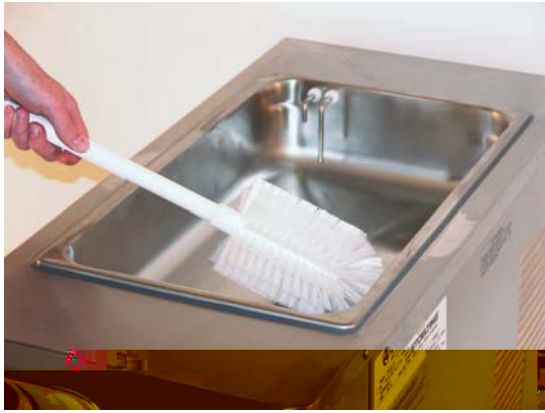

Figure 3-2 Sanitizing hopper
- D. Clean sides of hopper, mix inlet regulator and underside of hopper cover using a soft bristle brush dipped in the sanitizing solution (Refer to Figure 3-2).